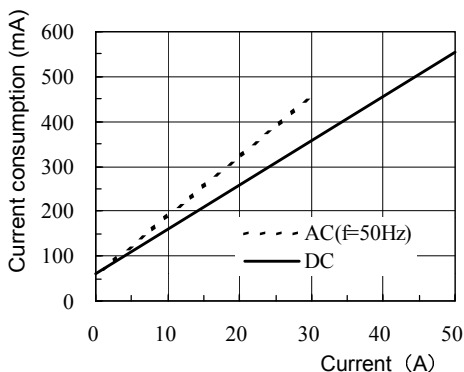

Fig.7 Current consumption* vs. current to be measured
- The current consumption of clamp-on probes depends on the current to be measured. Confirm that the total current consumption of the clamp-on probes does not exceed the rated output current of the 3269or3272. See Fig. 7,8.